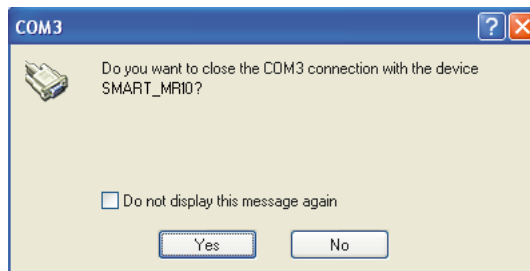

Figure 26: COM3 Disconnect?
4. Right-click the *COM3* icon then select the *Disconnect Serial COM Port* option. A *COM3* dialog box appears, as shown in *Figure 26*, requesting confirmation that you want to disconnect.